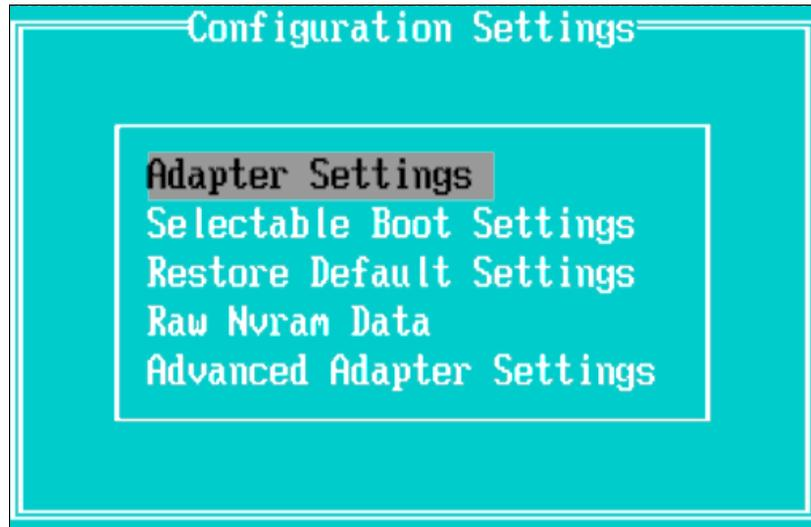

Figure 10-6 Configuration Settings screen
5. Select **Adapter Settings** and press Enter (Figure 10-6).